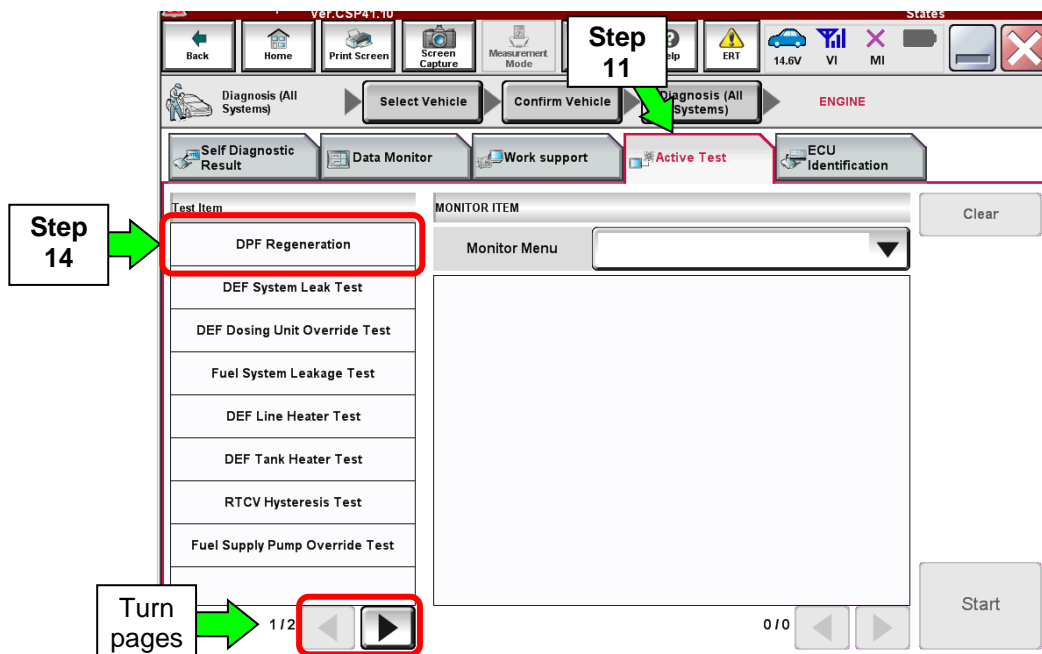

Figure 4
- If **DPF Regeneration** does not display, select the arrow button shown in Figure 4.